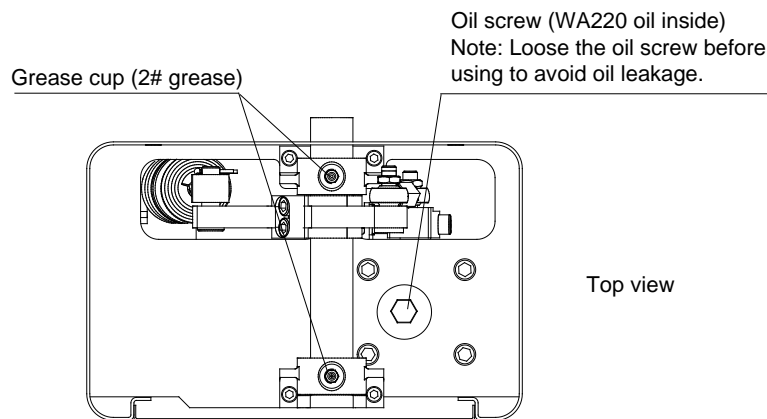

Fig.11
- Check if all screws and nuts have been tightened firmly except oil screw as shown in Fig.11.